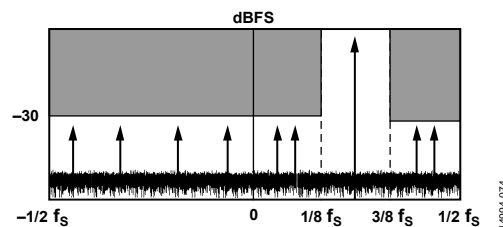
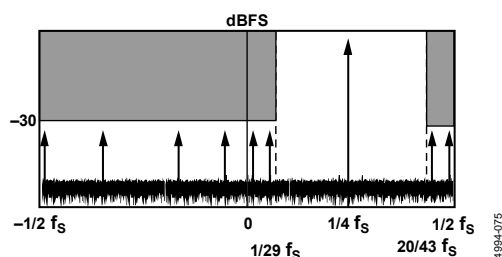

Figure 86. 25% VDR Bandwidth, Complex Mode
Figure 87. 43% VDR Bandwidth, Complex Mode
The complex mode of VDR works with selectable bandwidths of 25% of the sample rate (50% of the Nyquist band) and 43% of the sample rate (86% of the Nyquist band). Figure 86 and Figure 87 show the frequency zones for VDR in the complex mode. When operating VDR in complex mode, place in-phase (I) input signal data in Channel A and place quadrature (Q) signal data in Channel B.
Figure 86 shows the frequency zones for the 25% bandwidth VDR mode with a center frequency of  $f_s/4$  (tuning word = 0x04). The frequency zones where the amplitude may not exceed –30 dBFS are the upper and lower portions of the Nyquist band extending into the complex domain.
Table 30 and Table 31 show the tuning words and frequency values for the 43% complex mode. Table 30 shows the relative frequency values, and Table 31 shows the absolute frequency values based on a sample rate of 491.52 MSPS. Figure 87 shows the frequency zones for the 43% BW VDR mode with a center frequency ( $f_{VDR}$ ) of  $f_s/4$  (tuning word = 0x04). The frequency zones where the amplitude may not exceed -30 dBFS are the upper and lower portions of the Nyquist band extending into the complex domain.